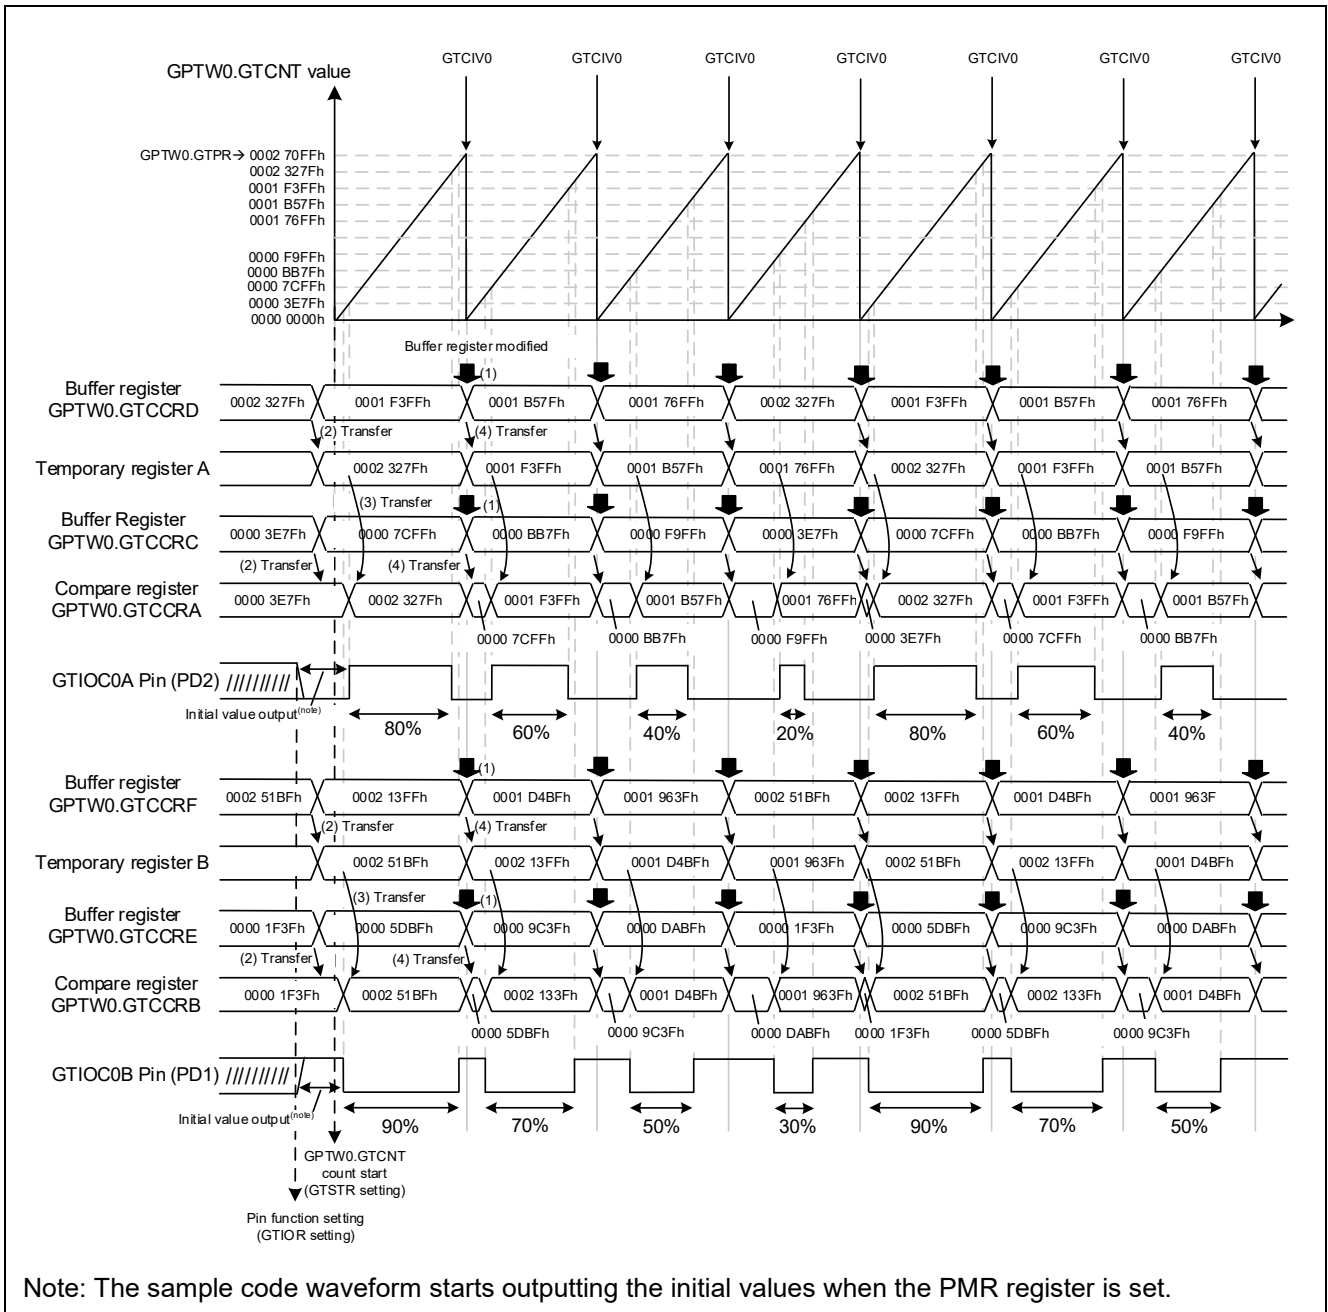

Figure 4.23 When Automatic Dead Time Setting Function is Not Used (Sawtooth-Wave One-Shot Pulse Mode)
Figure 4.23 shows operations when the automatic dead time setting function is not used (GTDTCR.TDE bit is 0).
In the above sample code, the value of buffer registers GTCCRC, GTCCRD, GTCCRE, and GTCCRF are modified by the GTCNT counter overflow interrupt (GTCIV0) because the cycle duty is changed with each period ((1) in Figure 4.23).
In this sample code, the initial values of the buffer registers for the code generated using the Smart Configurator are set to the same value as the compare register. As a result, the buffer register values are set in the user initialization function R_Config_GPT0_Create_UserInit before the counting starts. The values set in the registers are transferred from buffer register GTCCRD (GTCCRF) to temporary register A (B) and from buffer register GTCCRC (GTCCRE) to compare register GTCCRA (GTCCRB), respectively, by forced buffer transfers ((2) in Figure 4.23).
1. Transfer from temporary register A (B) to compare register GTCCRA (GTCCRB) when a GTCCRA (GTCCRB) compare match occurs ((3) in Figure 4.23).
2. Transfer from buffer register GTCCRD (GTCCRF) to temporary register A (B) and from buffer register GTCCRC (GTCCRE) to compare register GTCCRA (GTCCRE), respectively, when a GTCNT counter overflow occurs ((4) in Figure 4.23).